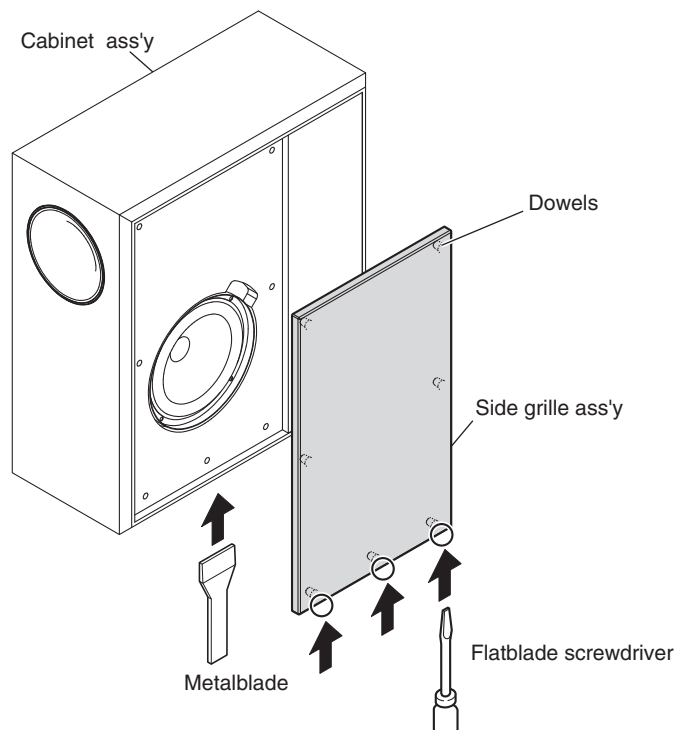

Fig. 1
- First, insert a flatblade screwdriver at 3 dowel positions and push up the side grille ass'y. (Fig. 1)
- Next, using the metalblade or the like, push the side grille ass'y upward until it comes off. (Fig. 1)